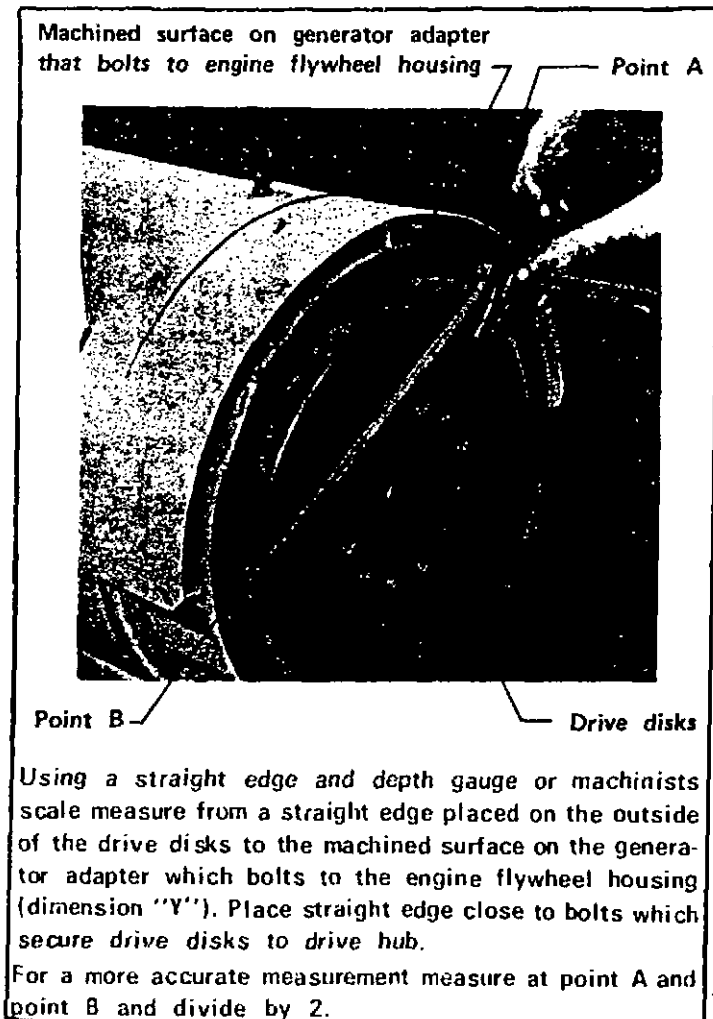

FIGURE 2-4 CHECKING SPACING FROM GENERATOR ADAPTER TO OUTSIDE OF DRIVE DISKS (DIM. "Y")
- e. Before starting to assemble the generator to engine, measure the distance from the surface on the generator adapter that bolts to the engine flywheel housing (Dimension "Y", figure 2-4). Measure the distance from the machined surface on the engine flywheel housing to the bottom of the drive disk recess in the flywheel (Dimension "C", figure 2-5).